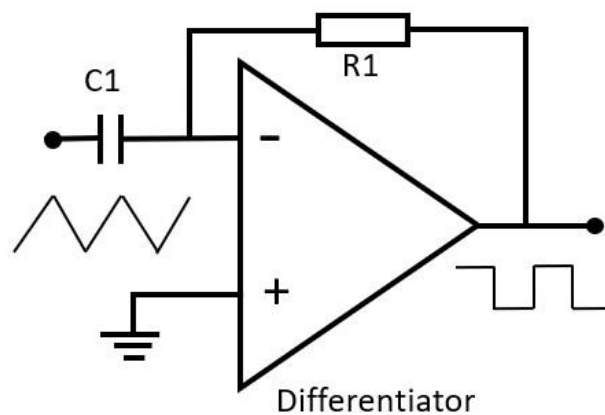

Figure 7: Integrator.
6. **The Integrator Op Amp** performs integration with respect to time. The output is proportional to the input voltage integrated over time governed by  $R_1$  and  $C_1$  (Figure 7).